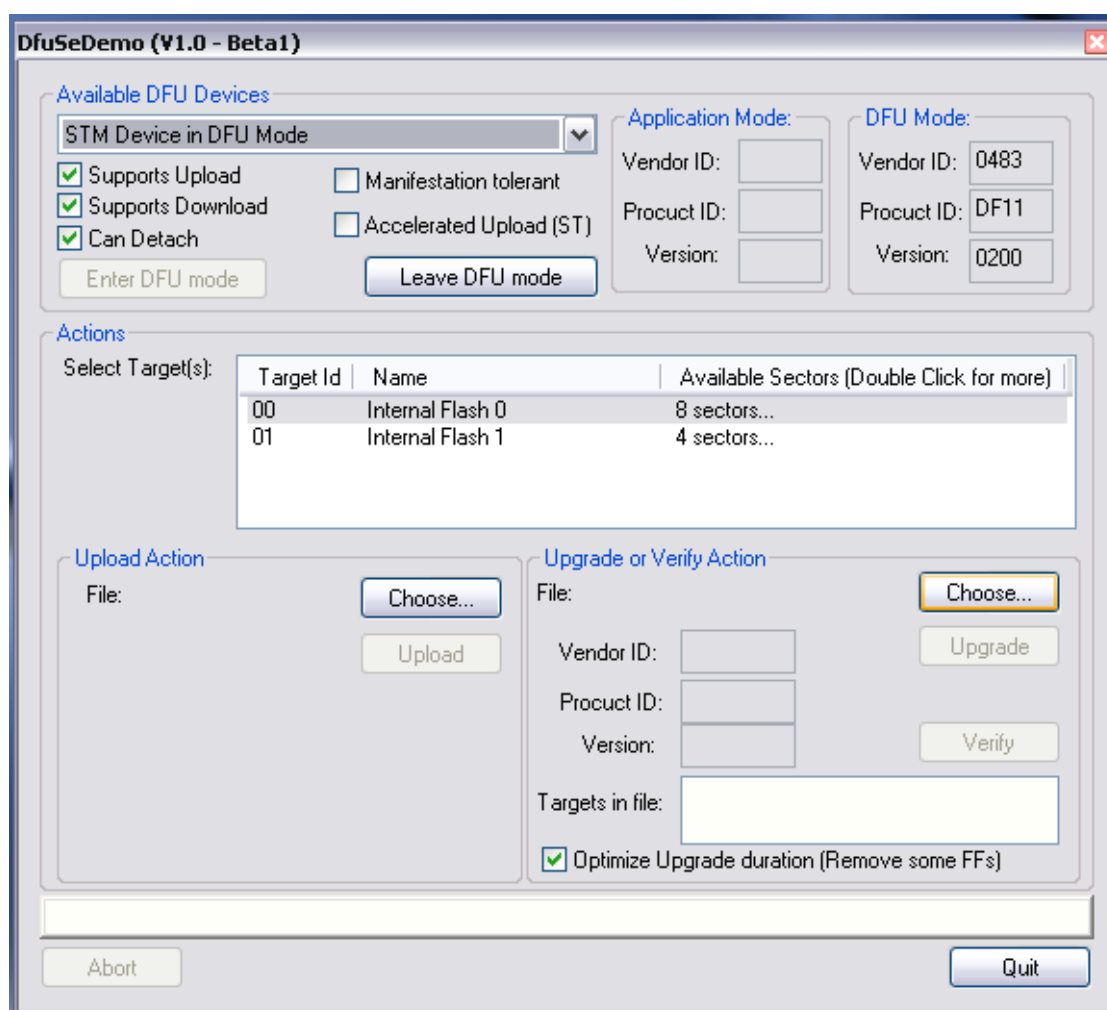

Fig. 1
- If the connection is successful, the program will appear as in Figure 1.